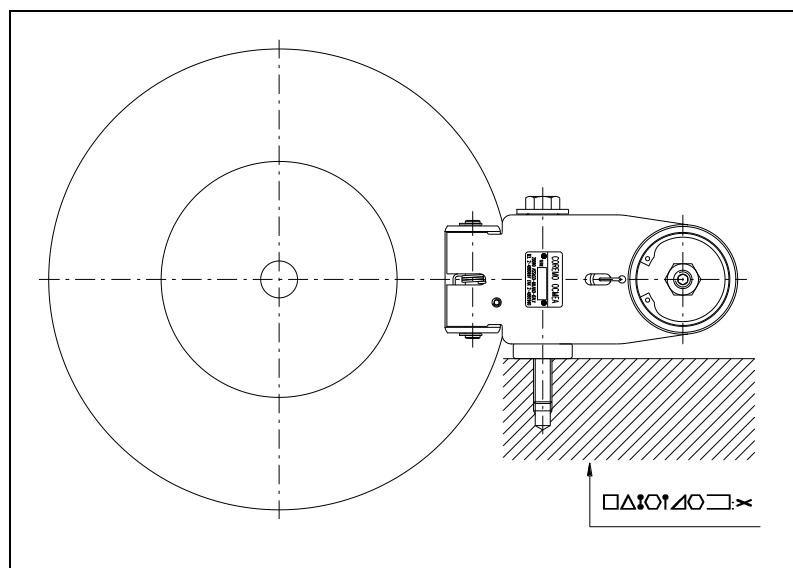

Figure 1
2. The brake must be mounted in a horizontal position as shown in Figure 1 so that the weight of the thruster does not bear on the levers.